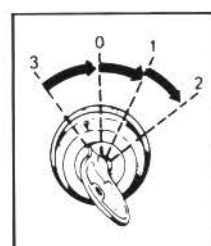

Fig. 9. Starter switch key
4. Insert the starting key and turn it to position 1 in fig. 9.
6. Push the starter switch key and turn clockwise to position 2 in fig. 9 (starter generator switched on). Hold the key there until the engine starts. The key when released will return to the switched on position (position 1 in fig. 9).
NOTE: The starter switch is also the main switch for the electrical system of the engine. Because the engine is equipped with an alternator the starter switch key must not be turned to off (position 0 in fig. 9) when the engine is running as electrical components may be damaged. For the same reason the battery cables should never be disconnected or reconnected to another battery while the engine is running.